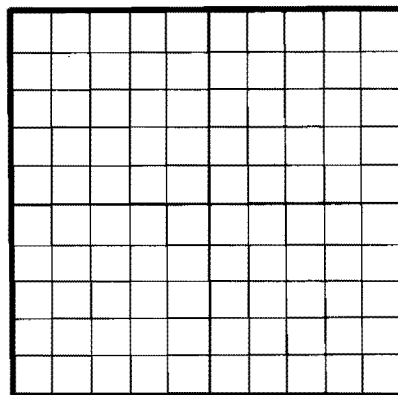

Figure 1-20 Grid Square
10. In Figure 1-20 draw the output waveform and label the following points.